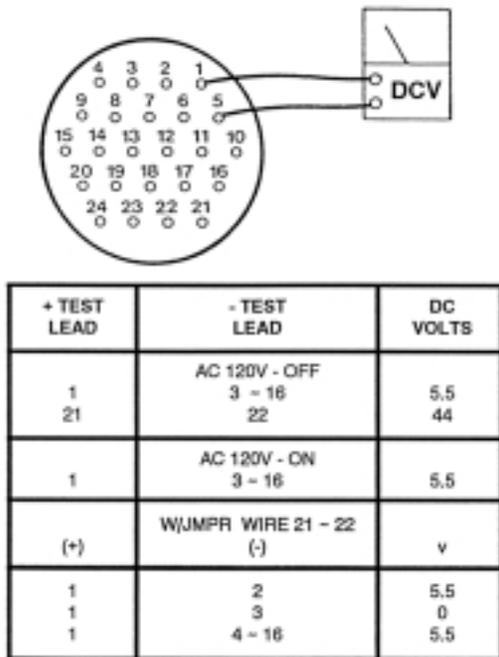

Figure 7-19. Table Base Connector CN13
1. Disconnect the Pendant Control connector from the base connector, connect all other connectors and use a DC voltmeter to measure the following sockets located in the table base connector CN13. See figure 7-19.